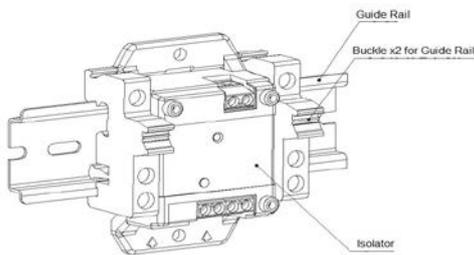

Fig. 4
- 3) The isolator can be mounted on a guide rail as shown on Fig 4.